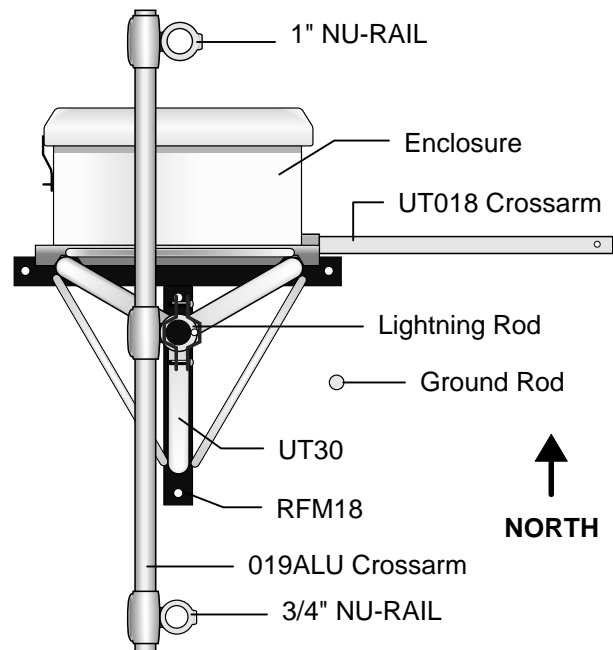

FIGURE 2.2-1. Top View of Tower
1. Drive the ground rod close to the tower (Figure 2.2-1) using a fence post driver or sledgehammer. Drive the rod at an angle if an impenetrable hardpan layer exists. In hard clay soils, a gallon milk jug of water can be used to "prime" the soil and hole to make driving the rod easier.
Sensor mounting brackets provide a means of mounting the sensors to the tower. General orientation of the mounting brackets is shown in Figure 2.2-1.